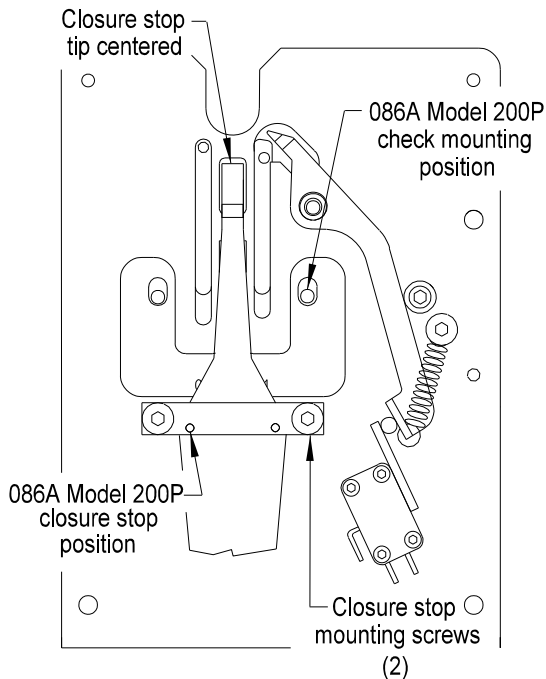

Figure 3.3
Refer to Figure 3.3 to further understand the check mounting position. For this adjustment the closure track must be removed from the closer.
1. For 086 Model 100 the closure stop mount is mounted as shown (Figure 3.3 upper view).
For 086 Models 200, 300, or 400, the stop mount is mounted as shown (Figure 3.3 lower view).